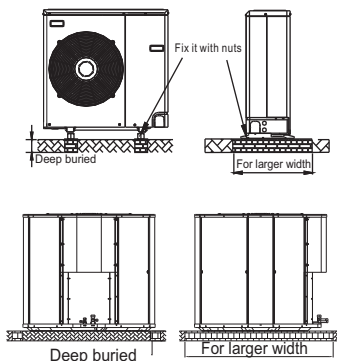

Fig 6
- 5) Adopting the concrete foundation, please refer to Fig 6: